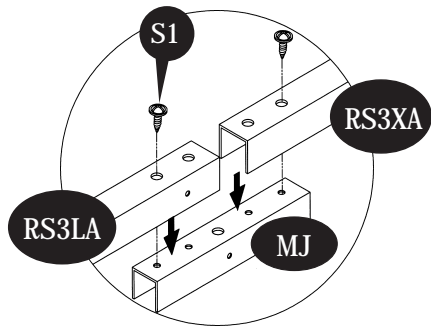

fig.1
7. Assemble back roof structures (RS1A) 2 nos. and middle joining support (MJ) together with 4 (S1) screws.
10. Assemble the roof structures (RS3LA), (RS3XA) with middle joining support (MJ). Use only 2 (S1) screws as shown in fig. 1.